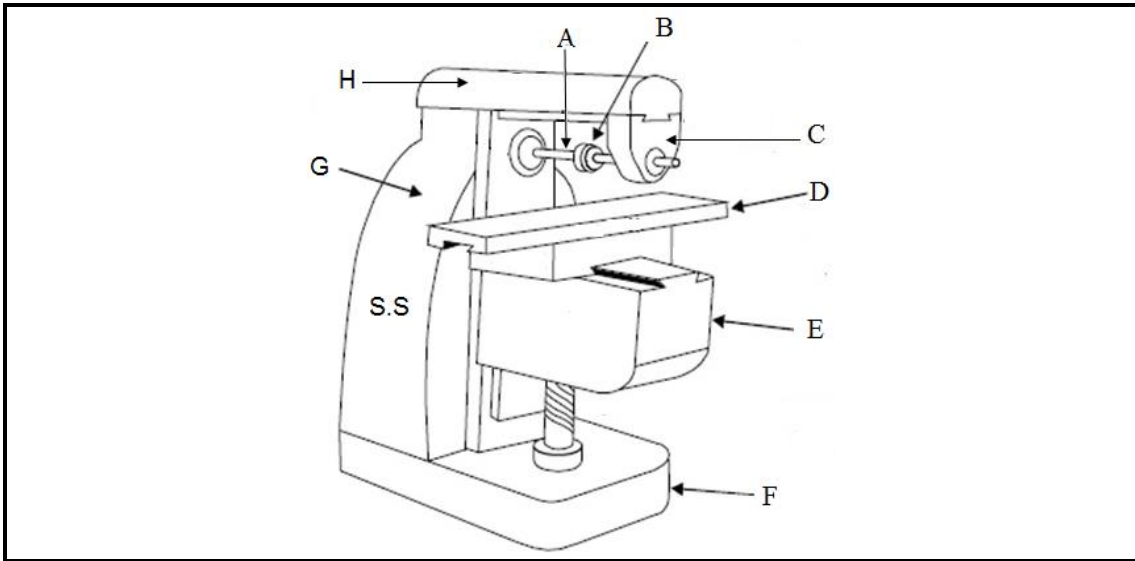

FIGURE 3
4.3 FIGURE 3 shows a milling machine. Name the parts indicated and write only the answer next to the letter (A–H) in the ANSWER BOOK.